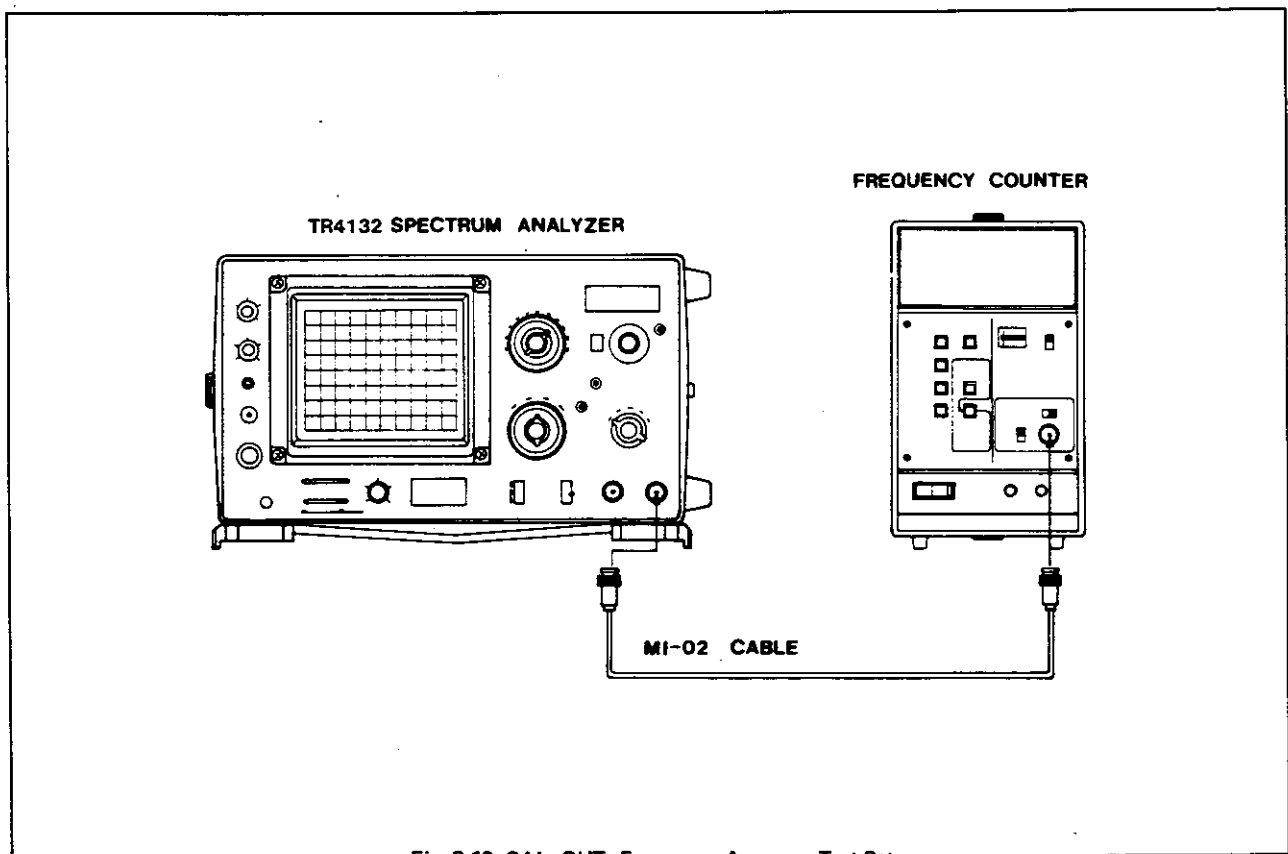

Fig. 3-12 CAL. OUT. Frequency Accuracy Test Setup
- (1) Connect **CAL. OUT.** of the instrument to the input of the Frequency Counter. [Fig. 3-12]
- (2) Check that the counter reading is between 99.8MHz and 100.2MHz.